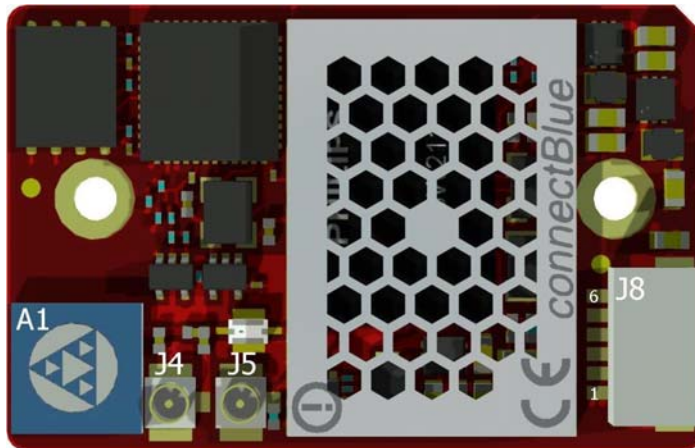

Figure 4: Primary side connectors
- Via the JST connector, J8 (see Figure 4: Primary side connectors). The connector is a 6 poles pin header. The pitch is 1mm and the connector is from JST with part number SM06B-SRSS-TB. For more information see section J8 Connector Description.